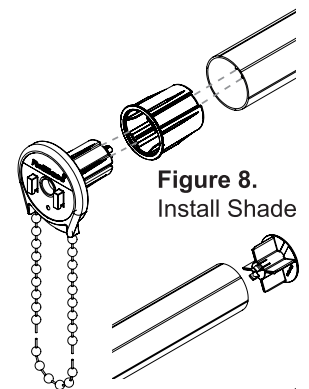

Figure 8. Install Shade
Step 6. Insert the clutch and the end plug (and tube adapter where required) into the roller tube as shown in **Figure 8.** Make sure the tabs on the inside of the roller tube fit into the channel on the clutch.